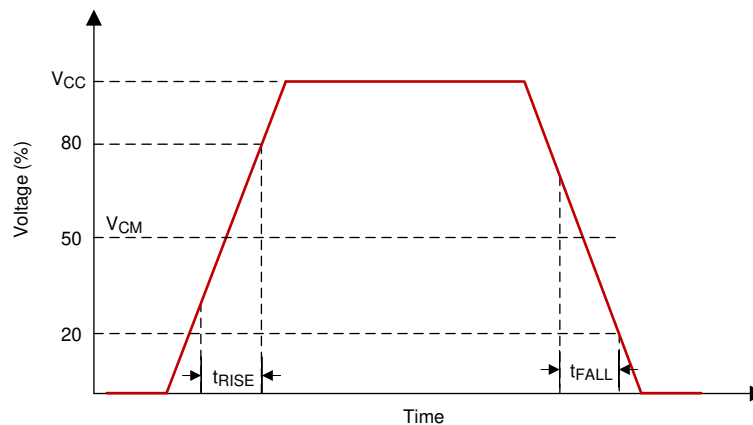

图 6-3. SCP Requirements for Rise and Fall
(1) See Figure 6-3 for rise time and fall time for SCP.